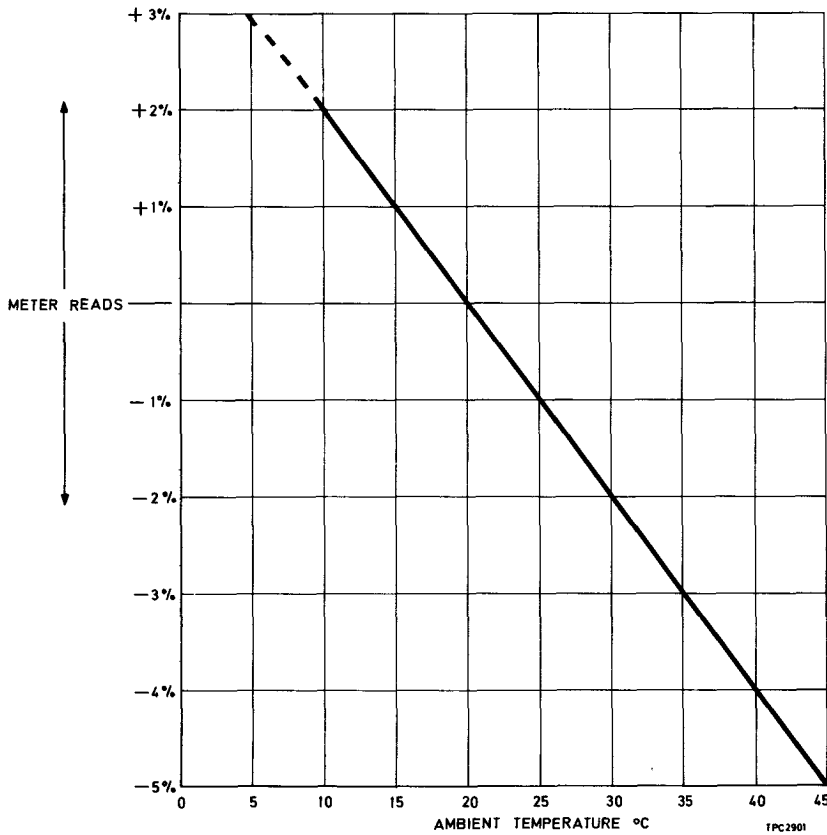

Fig. 3 Temperature correction chart
#### Temperature correction (Fig. 3)
10. Wattmeters CT418 and CT419 are calibrated in such a manner that optimum accuracy is obtained when the ambient temperature is 20°C. The typical temperature/accuracy curve, Fig. 3, may be used to obtain greater accuracy at other ambient temperatures. Protracted power measurements will cause air-temperature increase within the instrument, leading to long-term drift. All measurements should, therefore, be made as rapidly as possible. For greater accuracy, time should be allowed between measurements for the power meter to revert to ambient temperature as described in para. 9.